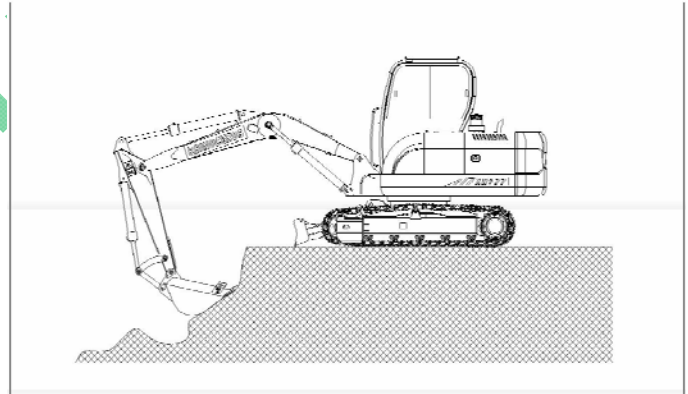

Fig 3—48
9. When works by the road or near the cliff. Keep the solid of the earth. in some case, do not work lonely, keep the traveling motor on the rear part of the machine. (Fig 3—48)。